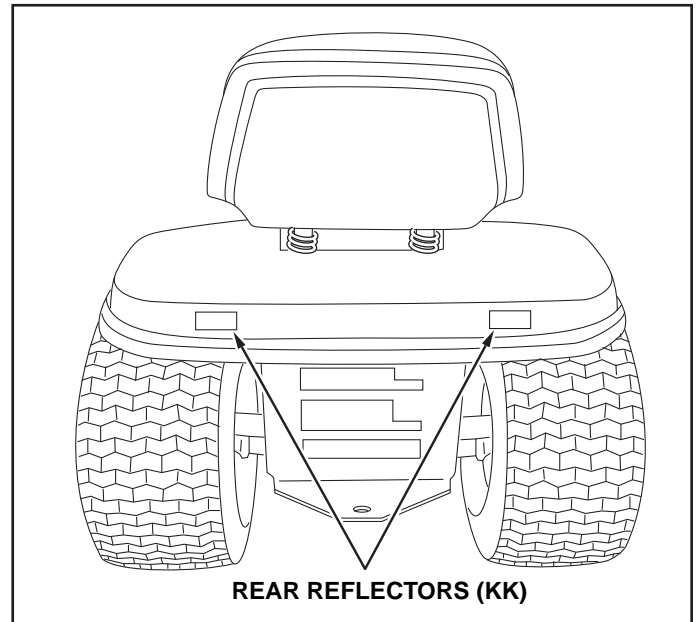

FIGURE 58
STEP 59: (SEE FIGURE 58)
- If your tractor is not equipped with rear reflectors, assemble the supplied rear reflectors (KK) to the rear fender. Place the reflectors as close to the bottom of the fender and as far apart as the shape of the fender will allow.